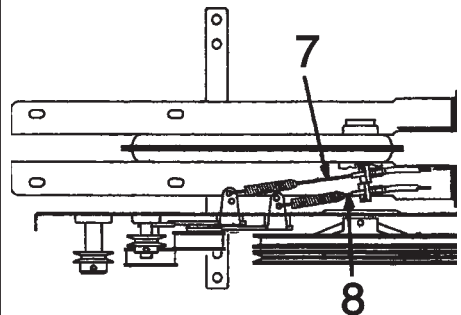

Fig. 11
6. Check that the adjusters and the springs (for the forward and reverse control) are assembled according to Fig. 11:
- Forward gear drive control: lever n° 2 on handlebar (7).
- Reverse gear drive control: lever n° 7 on handlebar (if applicable) (8).